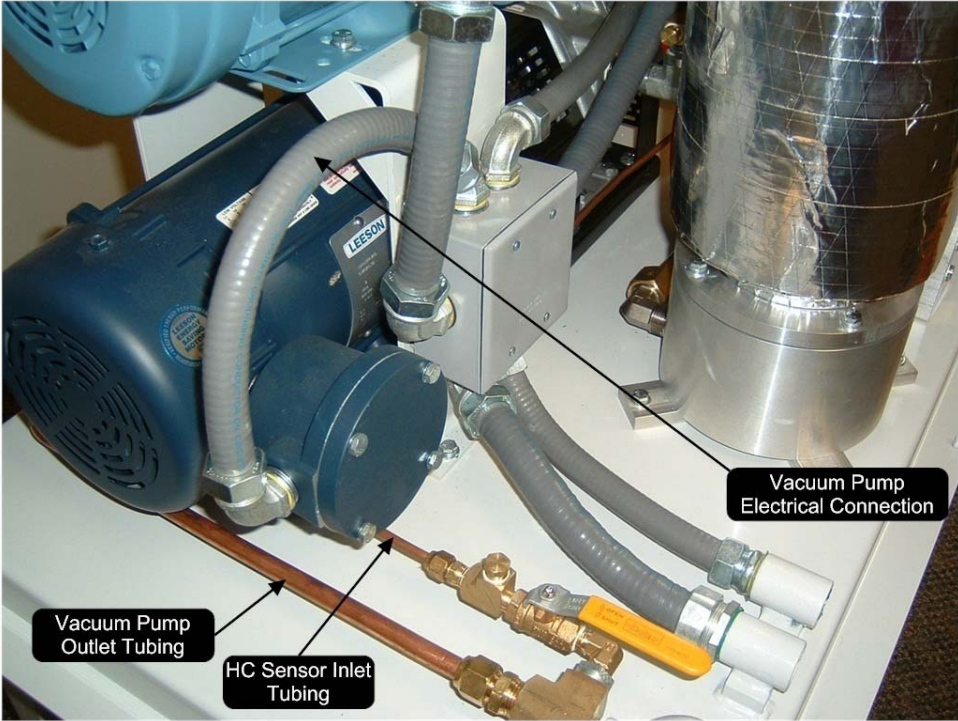

Figure 27: Vacuum pump electrical connection / vacuum pump outlet tubing / HC sensor inlet tubing
- See Figures 27 and 28.
9. Remove (4)  $\frac{1}{4}$ " x 1- $\frac{1}{2}$ " mounting bolts from the vacuum pump motor assembly base plate.
- Keep the (4) bolts for reuse or replace with new.
- Completely remove the vacuum pump ½" and ¼" inlet 45° flare tubing and all pipe fittings connected to the vacuum pump. See Figure 27.